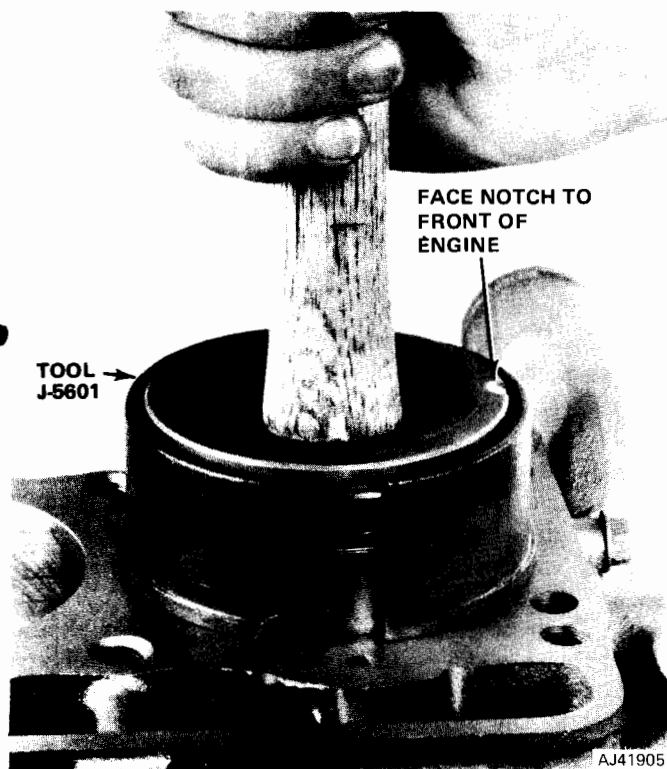

Fig. 1A-36 Piston-to-Bore Installation
(3) Lubricate piston and rings with clean engine oil.
(4) Use Piston Ring Compressor Tool J-5601 to install connecting rod and piston assemblies through the top of the cylinder bores (fig. 1A-36).